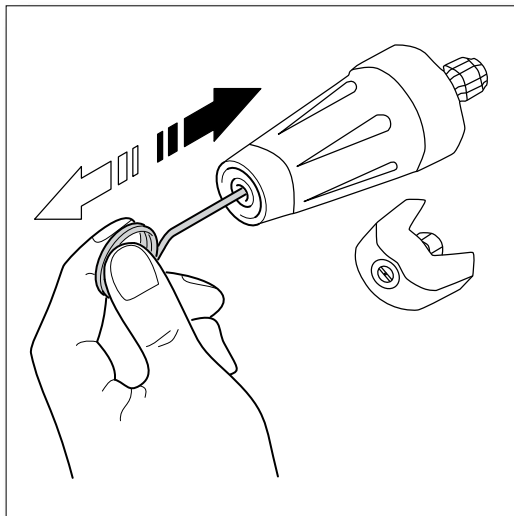

Fig. 23
- Using the nozzle tip cleaner provided (or an unfolded paper clip), insert the wire into the nozzle hole and move back and forth until debris is dislodged (**Fig. 23**). Back flush water through the nozzles using garden hose and highest pressure available (either standard water nozzle or use your thumb over the nozzle to create water pressure for back flush).